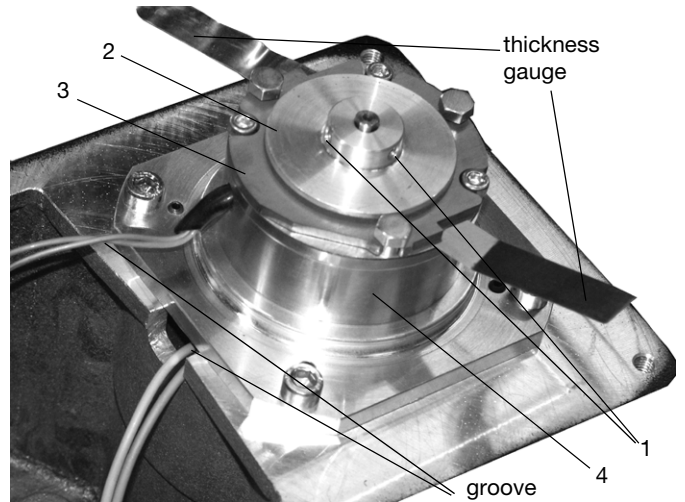

Fig. 9: Brake (rubber cap removed)
- make sure, the hose protected cables are within the groove (see fig. 9)